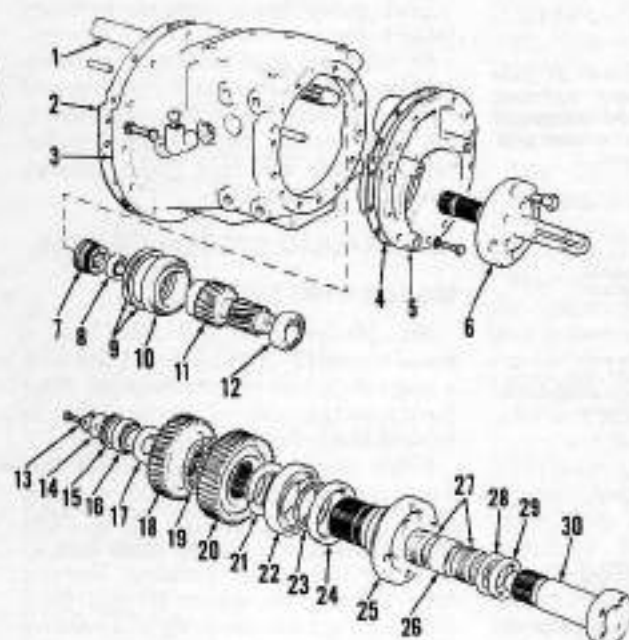

Fig. 190—Exploded view of reversible shaft pto assembly showing component parts and their relative positions.
**349. DISASSEMBLY.** Remove pto housing assembly as outlined in paragraph 343. Remove shaft (6—Fig. 190). Remove retaining bolts and end plate (5) and output shaft as an assembly. Remove input shaft assembly (11). Bend tabs of tab washer (13) away from bolt heads and remove bolts and washers. Use a puller under gear (18) and remove gear, washer (17) and bearing cone (16). Remove thrust bearing (19). Remove high speed output shaft (30), bearings (27) and spacer (26). Remove gear (20) and split rings (21). Press low speed shaft (25) out of bearing (22) and remove bearing (22), special washer (23) and shaft (25).
**350. REASSEMBLY.** Reassemble by reversing disassembly procedure, noting end play of input and output shafts must be checked and set. Install all shims (9 and 15—Fig. 190). Mount dial indicator and position probe to contact end of output shaft (6). Measure and record amount of end play. Mount dial indicator so probe contacts end of input shaft (11). Measure and record amount of end play. Correct end play for both shafts is 0.05-0.10 mm (0.002-0.004 inch) and is adjusted by adding or removing shims